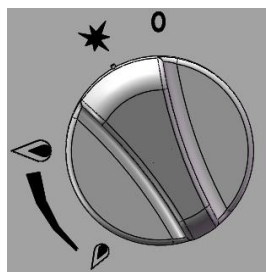

Fig. 3
- ②And then axial press the front air valve knob, left 30 degrees, to the fire position  (Fig. 3).
- ③At the fire position, completely press the knob, and press the button of
①When the control knob is rotated to the fire position  (Fig.3), the main fire burner flame is extinguished, but the pilot light will continue to work.
②Axial press the knob to rotate knob clockwise continually, so that the direction of the knob on the "0" position, at this time, the fire extinguished, the valve closed.